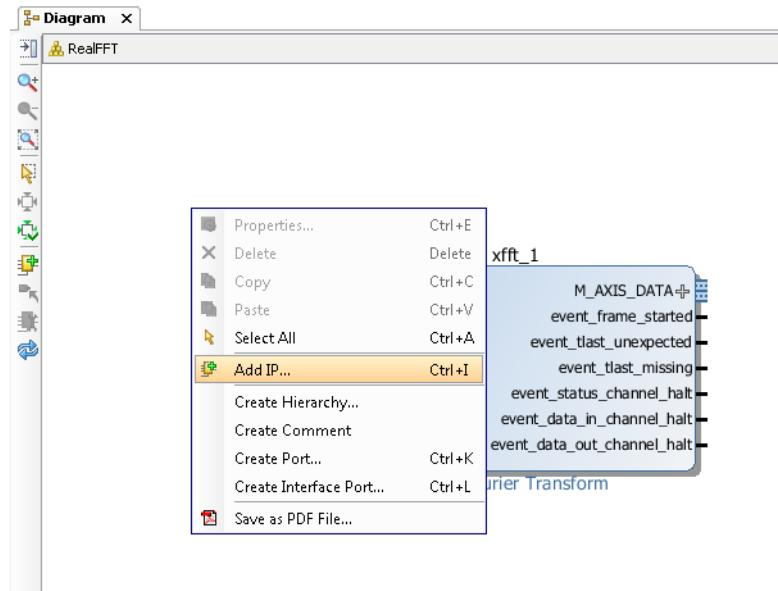

Figure 9-18: Add IP Blocks
6. Right-click in any space in the canvas and select **Add IP** (Figure 9-18).